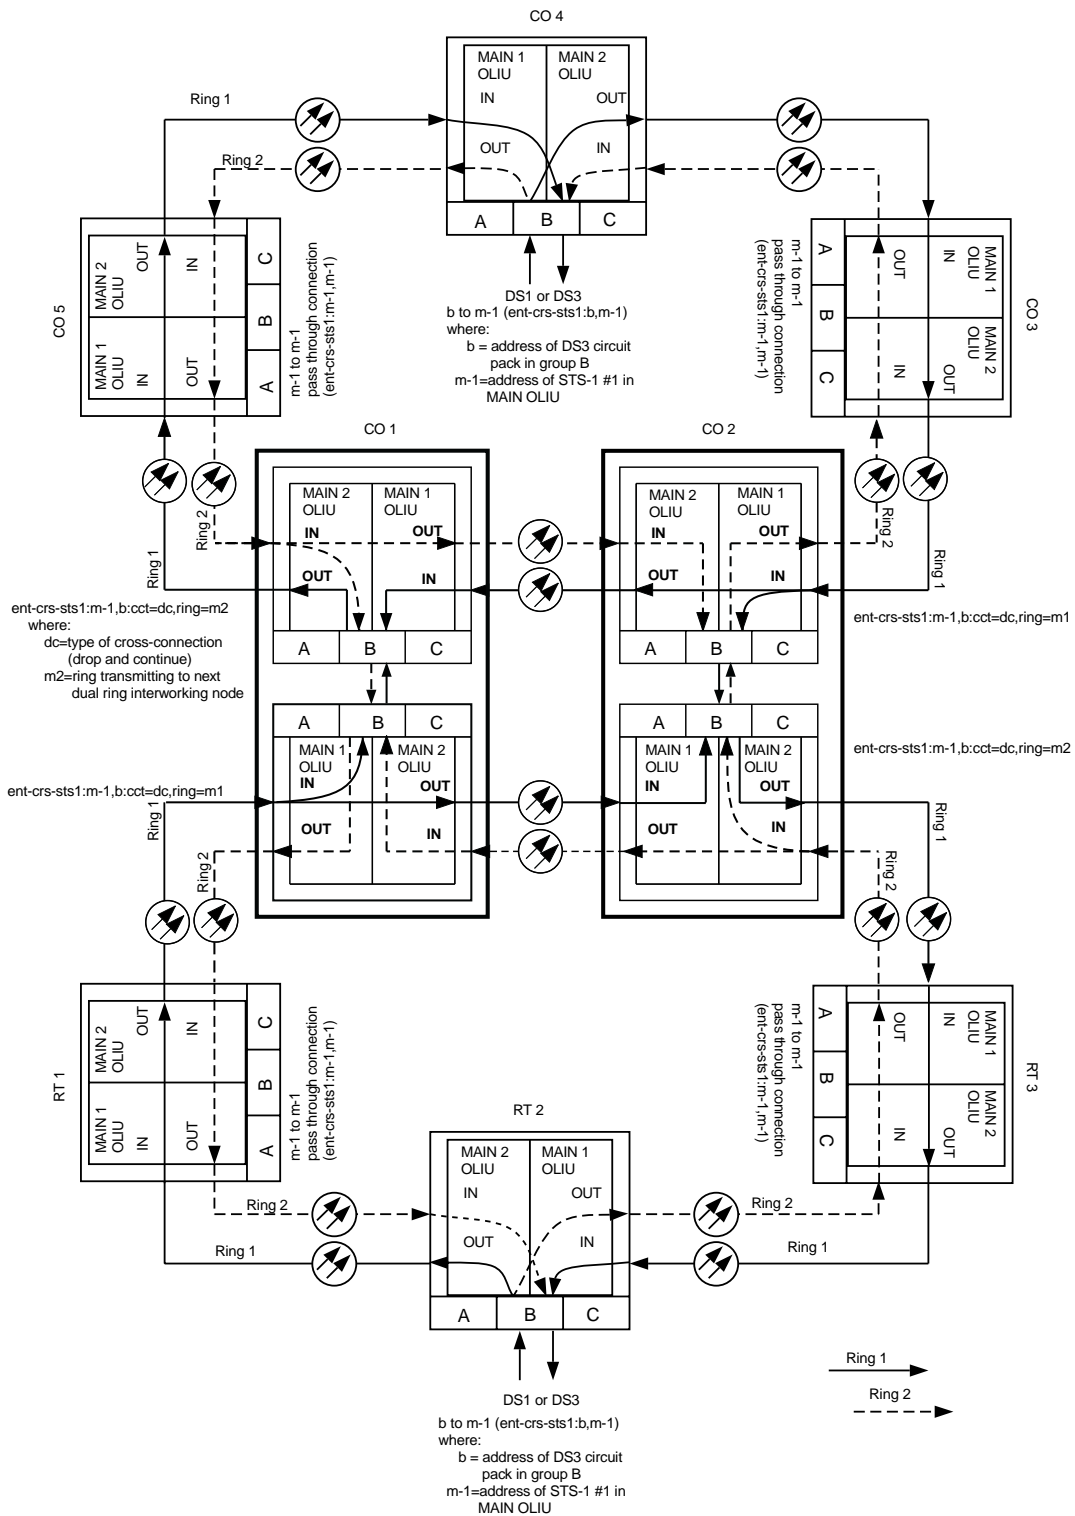

Figure 5 – Example of Dual Ring Interworking (OC-3) Cross-connections
12. At the dual ring interworking node sites, make or verify proper backplane EC-1 cable connections [**J38-J39 (FUNCTION UNITS A)**, **J40-J41 (FUNCTION UNITS B)**, **J42-J43 (FUNCTION UNITS C)**] between **FUNCTION UNITS** groups used for service being provided. See CO 1 and CO 2 in Figure 5.
At the dual ring interworking node sites, determine the ring (Ring 1 or Ring 2) rotation that will be continued to each node. For example, in Figure 5, note that at CO 1 in the top ring configuration, Ring 2 is continued to CO 2. In the bottom ring configuration, Ring 1 is continued from CO 1 to CO 2.